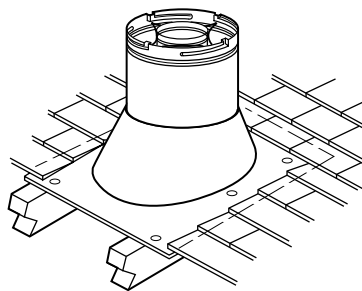

Figure 22
I. Install the roof flashing - Extend the vent sections through the roof structure. Install the roof flashing over the vent section and position such that the vent column rises vertically (use carpenter's level) (*Figure 22*). Nail along perimeter to secure flashing or adjust roofing to overlap the flashing edges at top and sides only and trim where necessary. Seal the top and both sides of the flashing with waterproof caulking.